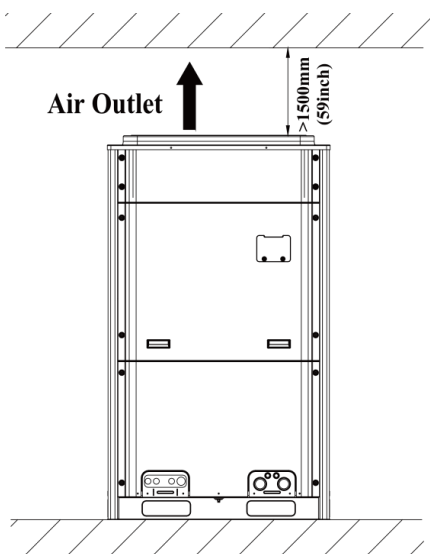

Fig.1
2. When there is wall (or similar obstruction) above the unit, keep the distance between the unit top and the wall at least 3000mm (118-1/8in.) or above. When the unit is located in a totally open space with no obstructions in four directions, keep the distance between the unit top and wall at least 1500mm (59in.) or above (See Fig.1). When space is limited within 1500mm (59in.) or the unit is not set in an open space, air outlet pipe is required to be installed in order to keep good ventilation (See Fig.2).